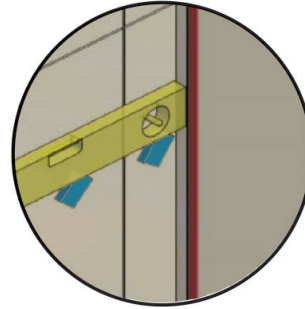

FIG 24.
- Remove backing from stabiliser blocks and press firmly onto wall (FIG 24).